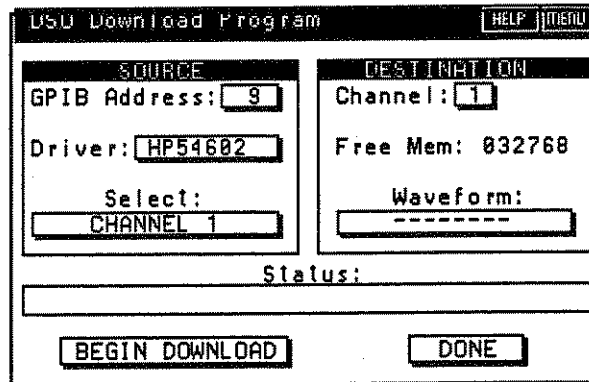

Figure F-8. Destination Block
- 5b. Destination block, see figure F-8, defines the destination Arb Channel for the waveform and names the waveform.